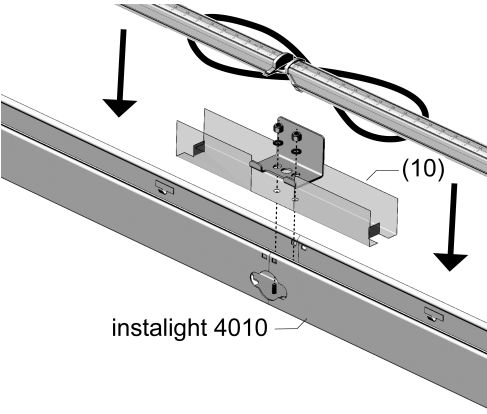

Figure 8: Insertion of the insulating foil
- Place one of the supplied, pre-cut insulating foils No. 88900086 (10) under each cable loop (Figure 8)!
- Press the LED light inserts into the retaining clips inside of the supporting rail, until they lock (Figure 8).